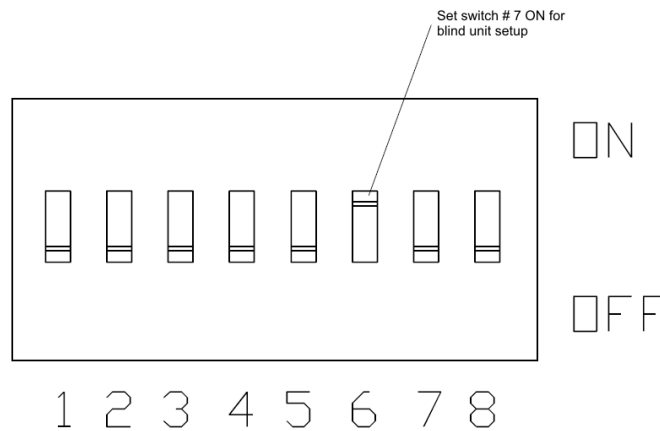

Figure3-5
4. Set the #6 Dipswitch to “on” and the other switches to “off” (See Fig. 3-5)